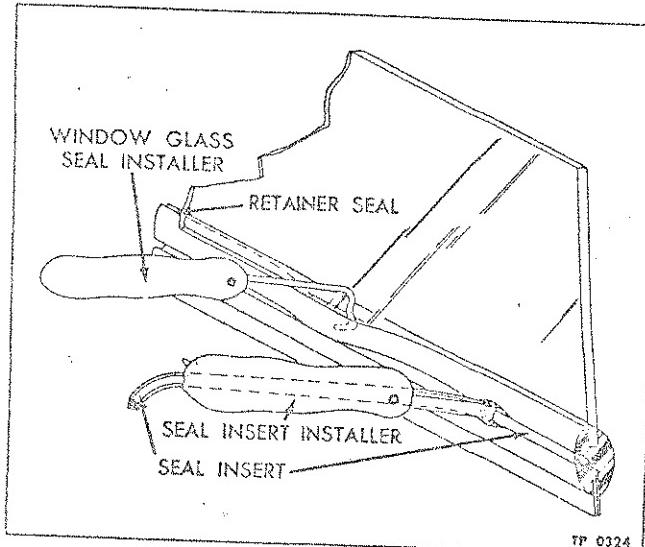

Figure 6—Installing Glass Retainer Seal and Insert
Although possible to install retainer and seal insert without use of special tools, tools listed in "Special Tools" at end of this section, are recommended to facilitate installation (fig. 6).
- Position glass to seal, insert end of retainer seal installer (fig. 6) in seal groove and move tool along edge of glass forcing outer lip of seal over glass. Use large installer (hook) (part of CS-1154-A) for all except rear window. For rear window use special installer (hook) CS-1154-12.